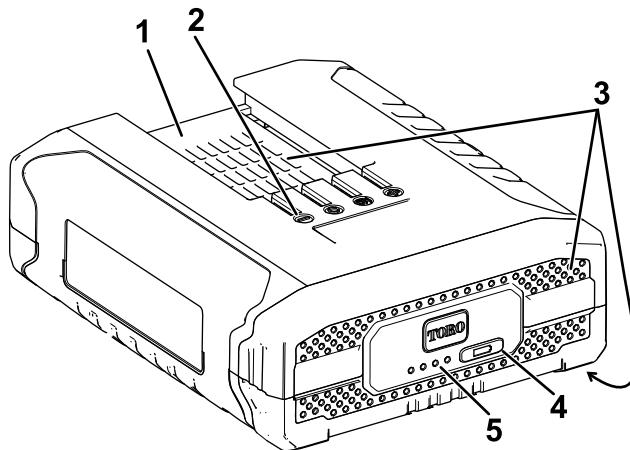

Figure 24
2. Line up the cavity in the battery pack (Figure 24) with the tongue on the charger.